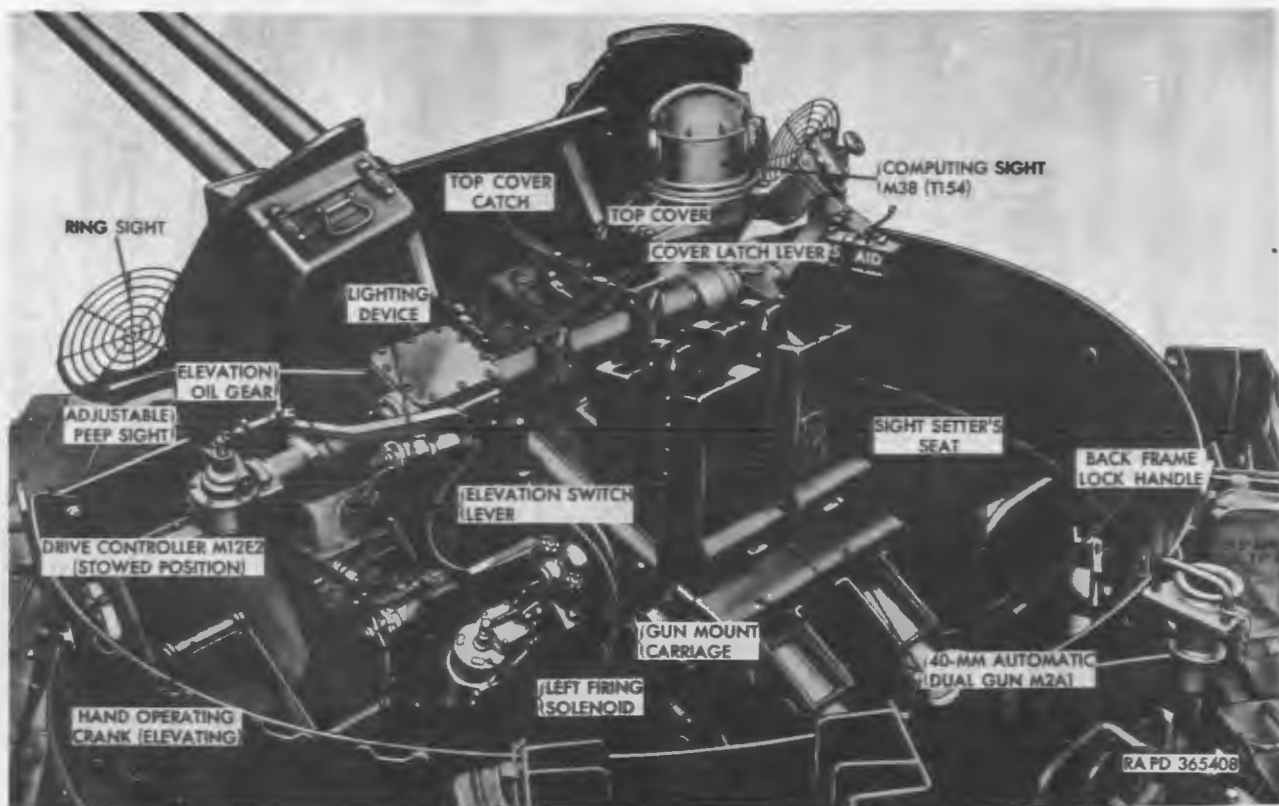
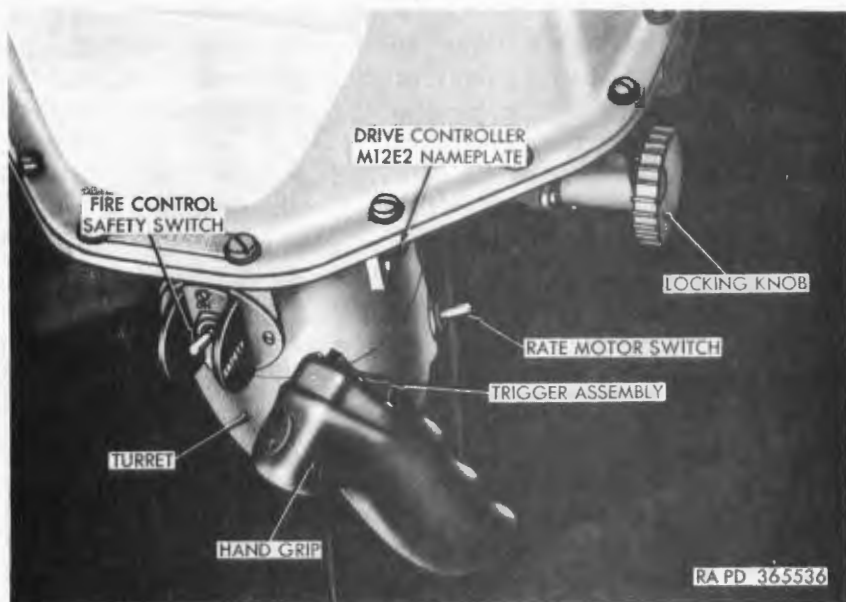

Figure 27. Armament and sighting and fire control materiel installed on 40-mm twin gun mount M4E1.
Figure 28. Drive controller M12E2 in operating position.
a. General. The 40-mm twin gun mount M4E1 and 40-mm automatic dual gun M2A1 (fig. 27) are electrohydraulically operated in
- (1) *General.* The drive controller M12E2 (fig. 27), mounted on the shield in front of the gunner's seat, is carried in the stowed position when not in use and is raised to the operating position (fig. 28) during power operation of the gun and mount. Manual signals caused by manipula-
tion of the hand grips (fig. 28) of drive controller by the gunner are transformed into corresponding electrical signals which are transmitted to the elevation and azimuth oil gears M6A1E1 (fig. 26). These electrical signals control the operation of the oil gears which hydraulically power the gun and mount in azimuth and elevation.
- (2) *Positioning of drive controller* (fig. 28). To raise drive controller into the operating position, turn locking knob counterclockwise 180° to retract plunger and raise drive controller to operating position. Release knob to permit spring-loaded plunger to seat in hole of mount support slide. Make sure that plunger locks drive controller securely in place by attempting to lower drive controller without turning knob. To lower drive controller, rotate locking knob counterclockwise 180° to retract plunger, lower drive controller and release knob. Make sure drive controller is locked in the stowed position by attempting to raise drive controller without turning knob.
- (3) *Turret* (fig. 28). The turret, attached to the base of the drive controller contains a fire control safety switch, rate motor switch, and two hand grips on which are installed the trigger assemblies.
- (2) The elevation oil gear (fig. 27) is mounted on the gun mount platform in front of and to the right of the gunner's seat. This oil gear provides power to operate the dual gun from -3° depression to +85° elevation at variable speeds.
(7) *Firing solenoids (figs. 27 and 29).* Two firing solenoids, one secured to each side of the gun mount carriage, are provided to electrically operate the firing plungers of 40-mm automatic dual gun M2A1. The firing solenoids are actuated simultaneously by either trigger assembly in the hand grips of the drive controller through a relay in the distribution box.
f. Top and Bottom Covers. A top cover (fig. 27), located on top of the breech casing in front of the automatic loader, provides a
g. Cover Latch Levers (fig. 27). A cover latch lever is located on each of the top and bottom covers of the breech casing body. The lever retains the cover in locked position with a spring-loaded plunger. Two holes in each cover retain the lever in either a locked or unlocked position. Lift cover latch lever head to release the plunger from its locked position, then rotate the lever to unlock the cover. Release the head to secure the lever in an unlocked position.
h. Top Cover Catch (fig. 27). A top cover catch is located on the forward edge of the top cover. The catch retains the top cover in an upright position when opened. Press the catch to release and close the cover.
- (2) *Horizontal release lever.* To adjust seat horizontally, press in on horizontal release lever, hold lever in this position and move seat forward or rearward as desired, then release lever.
- (3) *Seat back frame lock handle* (figs. 27 and 29). Pulling upward on the handle permits the seat back frame and cushion to be folded down onto the seat. When folded up and back, the handle automatically latches the seat back frame and cushion in the upright position.